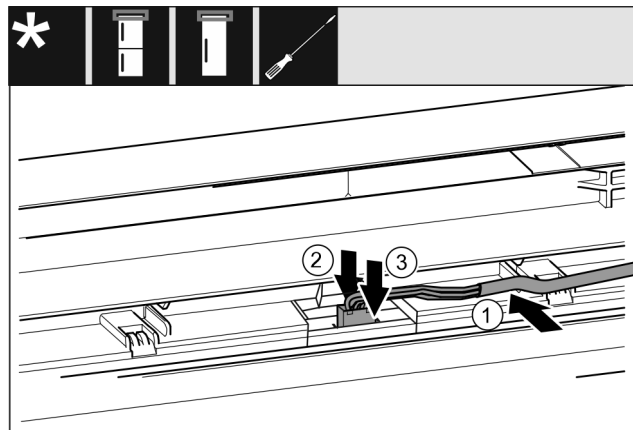

Fig. 44
- Insert the grey cable into the guide in the top door. Fig. 44 (1)
- Press back the latching lug Fig. 44 (2)
- Engage the plug. Fig. 44 (3)